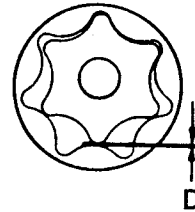

Fig B5.5
- (3) Refer to Fig B5.5. Fit the outer ring in its original running position and check rotor lobe clearance using feeler gauges (dimension D). Clearance to be 0,089 to 0,127 mm.